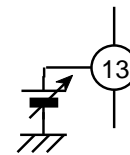

Fig.2
5. Switch(Pin13) can be changed by supplying some voltage as Fig.2.